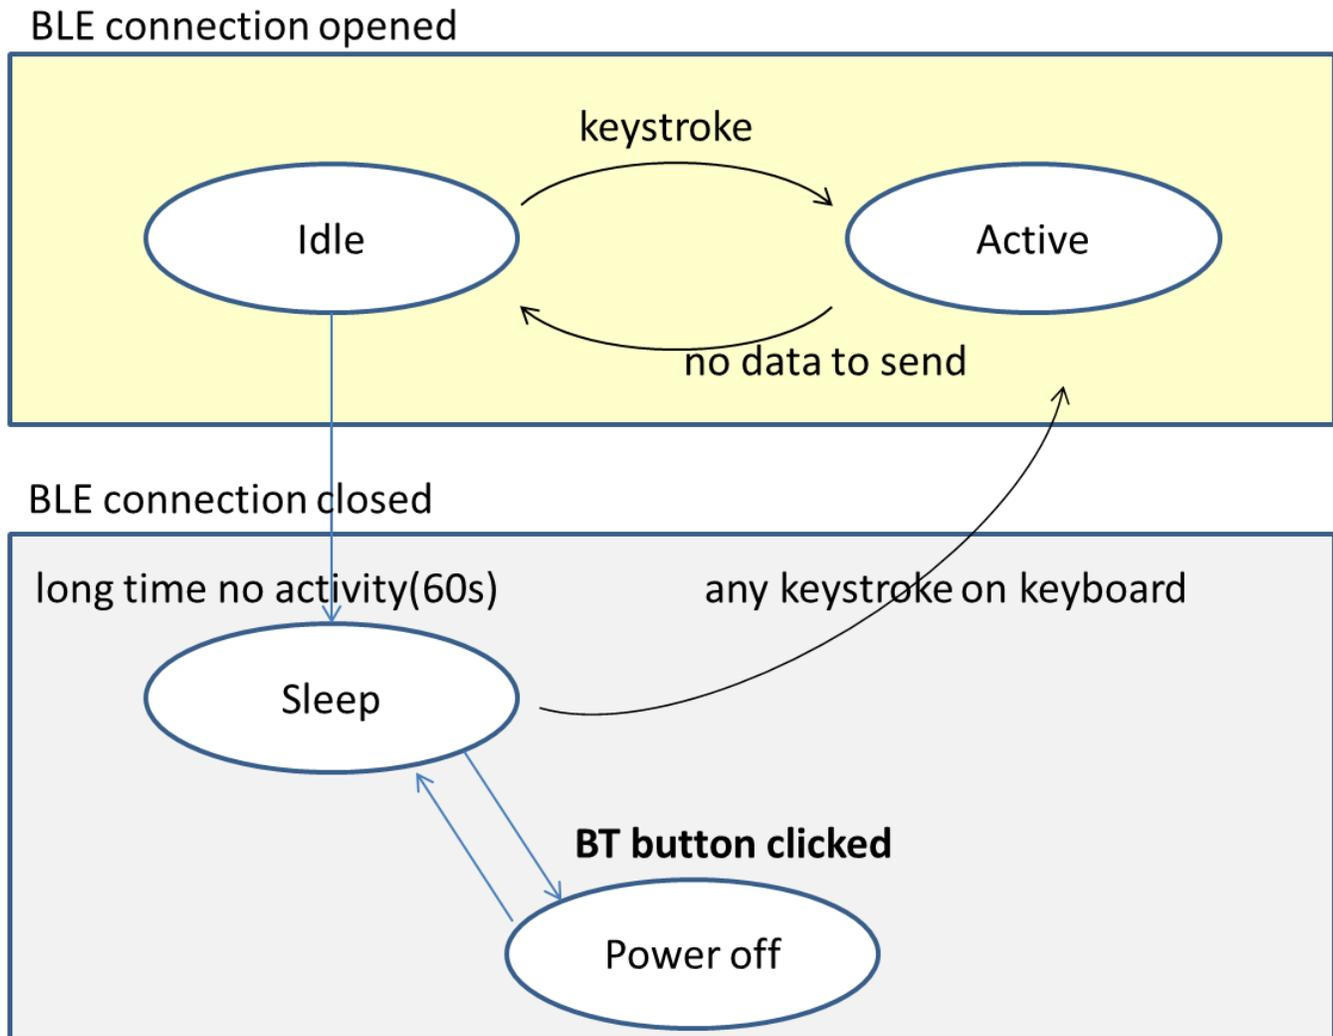

Figure 6. Working Mode State Machine
Figure 6 depicts the working mode of the keyboard: this assumes that the keyboard is already paired and bounded with the host.
5. The keyboard automatically goes into sleep mode if there is no user input for around 60 seconds, to save power. Press the BT button to toggle Power On/ Power Off mode for the keyboard. See Figure 6 for more details.